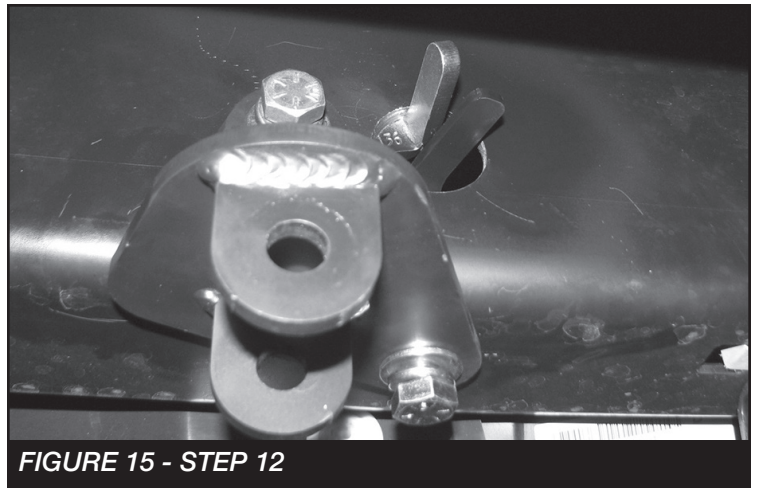

FIGURE 15 - STEP 12
12. Remove the frame bracket from the shackle. Install the frame bracket to the frame using the FT70136 (Nut Tab), FT30796 (Nut Tab) and 1/2" X 1-1/2" bolt, split & lock washers. **NOTE: The FT70136 will be used for the side and FT30796 for the bottom hole.** Torque to 127 ft-lbs. **SEE FIGURE 15**